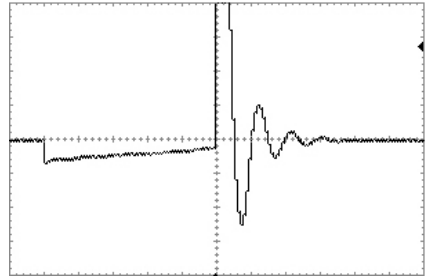

Fig.11
- ◆ **Dmp Sc3** (strong damping) (see Fig.11);